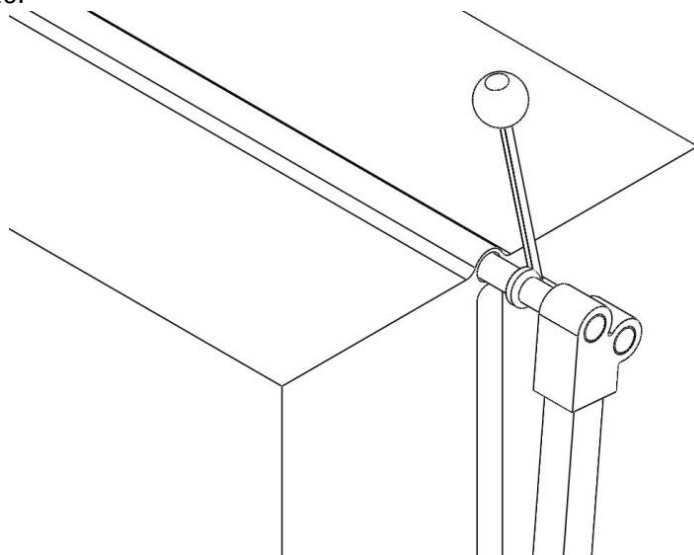

Figure 16
16. Tie the Elastic Ball Strap (cvJ) to the long finger on the same side as the Locking Gas Shock (cvLS) is located. Use the Elastic Ball Strap (cvJ) to help lower the spa cover. **Do Not Pull on the side flaps of the cover.** See Fig 16.